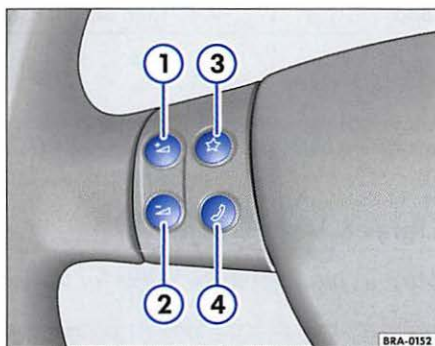

Fig. 14 Left side of the multi-function steering wheel with the controls for the telephone and the radio
- Press the  ⇒ fig. 14 ① and  ② buttons to change the volume. ◀